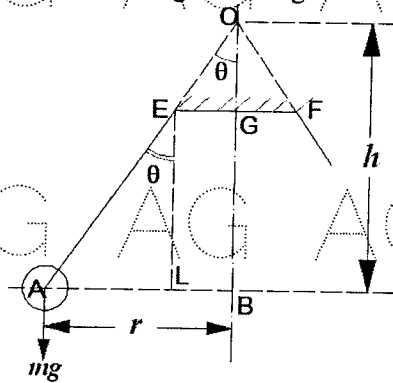

Figure 2
- b) Determine the: (i) maximum speed (ii) minimum speed (iii) range of speed of a Watt governor of open arm type shown in Figure 2 in which the length of arm  $AE = 400$  mm, and length  $EF = 60$  mm, when the angle  $\theta$  changes from  $40^\circ$  to  $30^\circ$  [5+5]